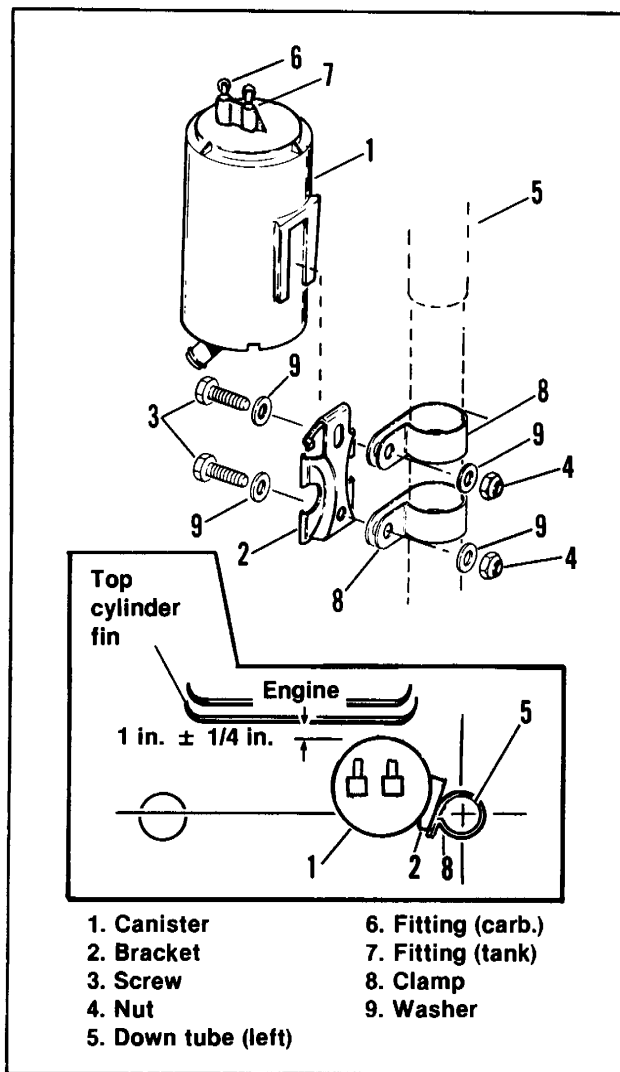

Figure 4-61. Canister Mounting
2. See Figure 4-61. The canister must be inserted in bracket with nipples facing engine.